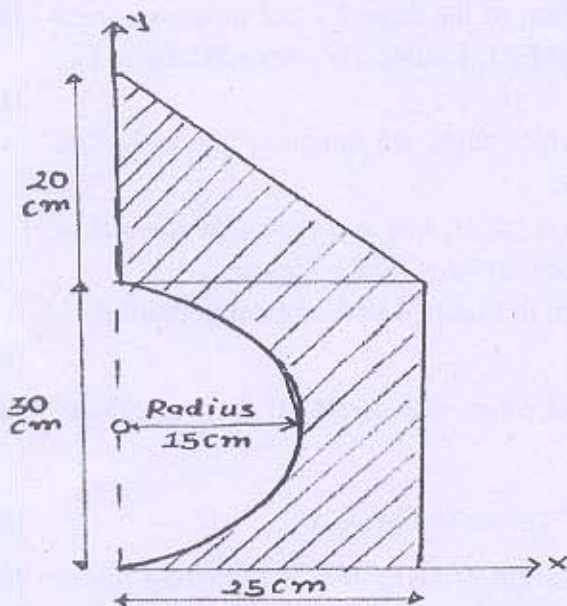

Figure 1
- Q - 1 Find centroid of the shaded area shown in Figure 1. [07]